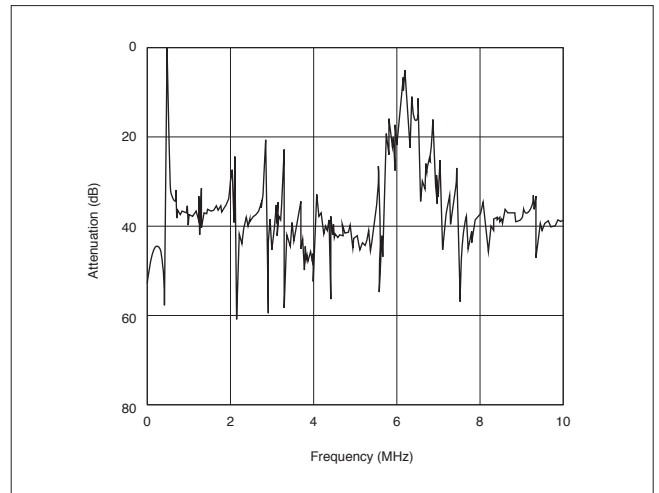
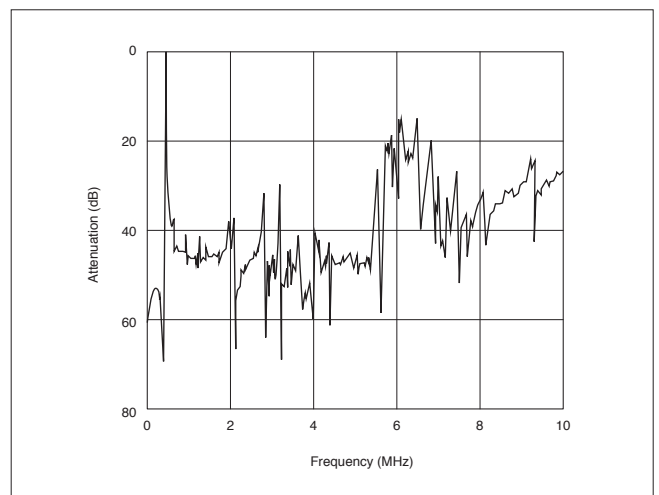

Fig. 8-2 Spurious Response with SFULA450KU2B-B0
Fig. 8-3 Spurious Response with SFULA450KU2B-B0+IFT
- (1) It is recommended to use supplementary IFT together with CERAFIL® for suppression of spurious.
- (2) Arranging 2 or more CERAFIL® for mutual cancellation of spurious.
- (3) To provide low pass or high pass filter of the fixed LC for suppression of spurious.
Among the countermeasures itemized above, the most common approach is method (1). The spurious responses are shown in Fig. 8-2 with only SFULA450KU2B-B0 and Fig. 8-3 with SFULA450KU2B-B0 + IFT. This arrangement for suppression is sufficient.